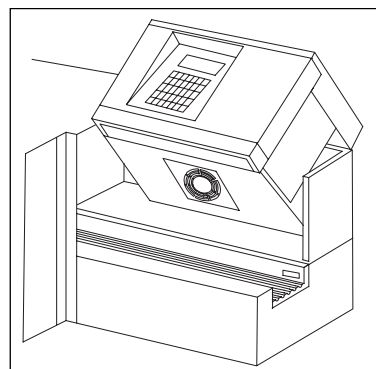

Figure 9.36
2. Lift the right side of the PPC (Figure 9.36).